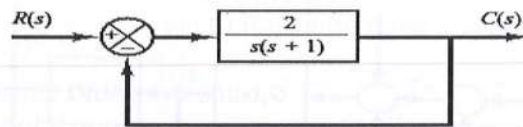

Figure 1
- b) ✓ Find the TF of following system (figure 1). [3]